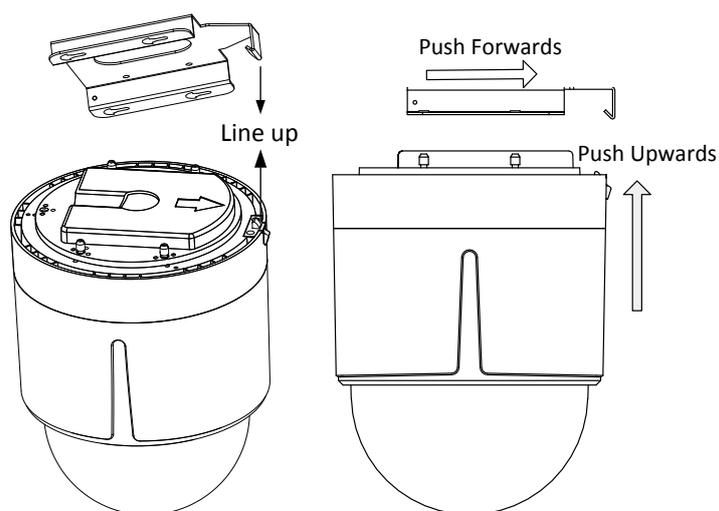

Figure 3-51 Attach the Back Box to the Mounting Base
- (4) Route the cables for the speed dome. Align the bottom of the speed dome with the mounting base.
- (5) Line up the direction of arrow with the spring end of the mounting base.
- (6) Push the speed dome upwards and then forwards in the direction of arrow. When the speed dome is placed in position, the spring will automatically snap into the lock clip firmly. Refer to the Figure 3-51.